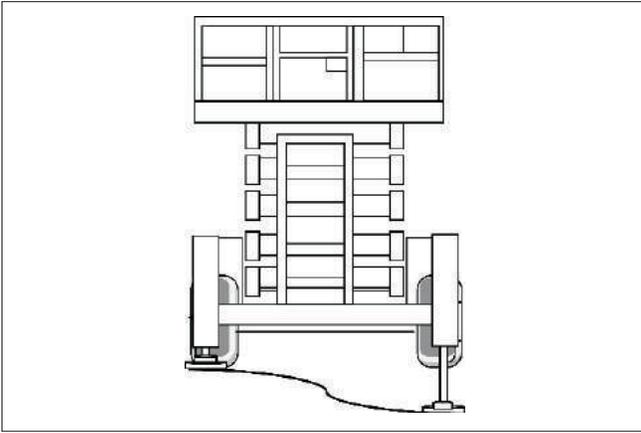

Figure 8.18
5. Push the **Joystick Controller** ③ (see Figure 8.18) slowly forward or pull it slowly backward, depending on which way you want to go. The further you move the joystick the faster the S3970RT / S3370RT / S2770RT moves.